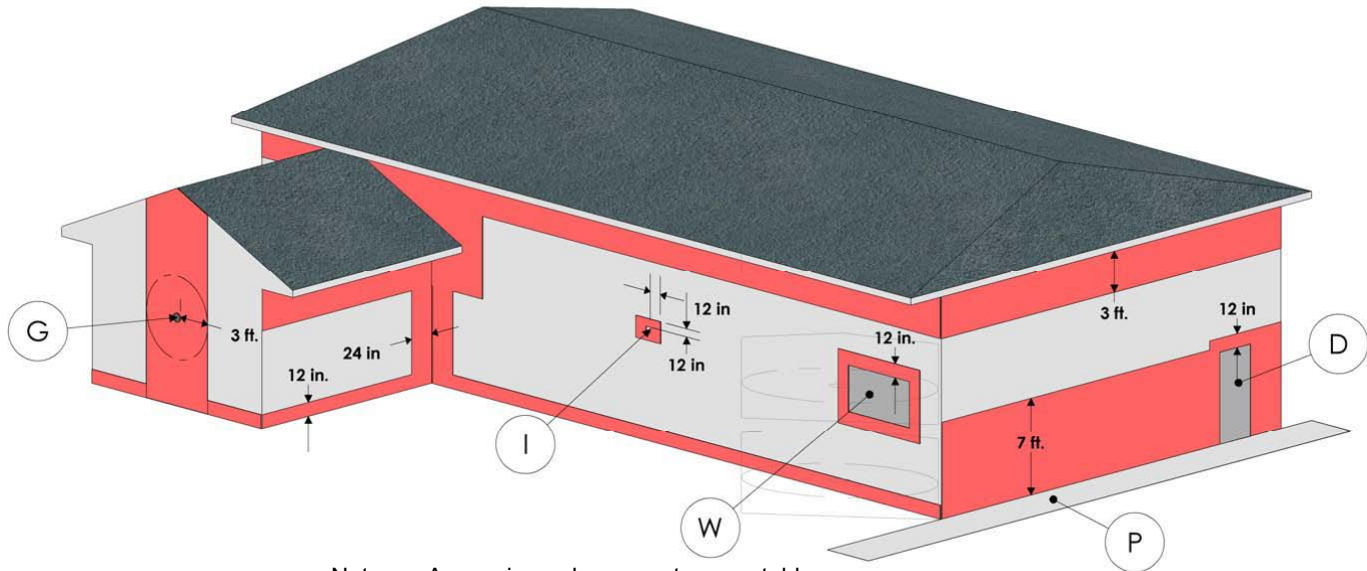

Figure 7
1. Place the UBB according to the installation instructions. See Figure 7 for vent locations.
1. Place the UBB according to installation instructions. See Figure 7 for vent locations.
2. Locate vent termination per the NFPA rules. See Figure 7.